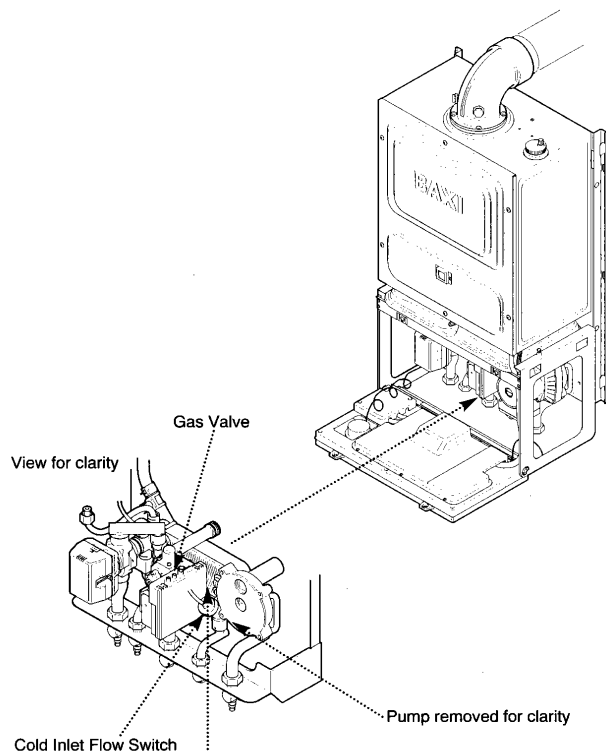

Fig. 71
3. Remove the two screws securing the plate heat exchanger to the manifolds (Fig. 71).